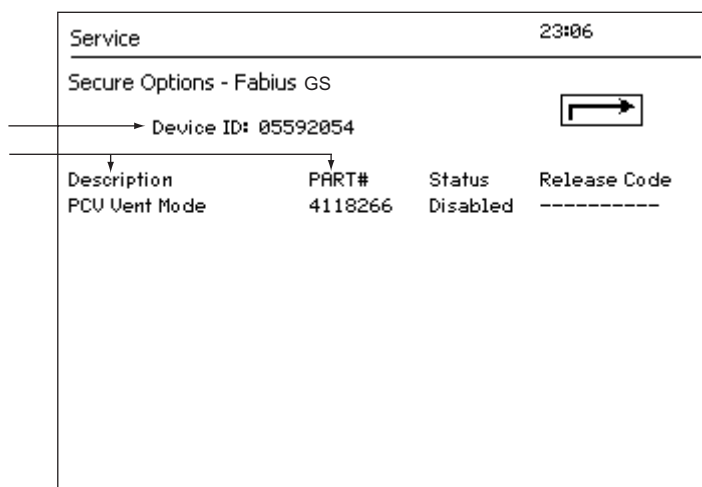

FIGURE 5. Secure Options Screen
- 5.1 Access the Secure Options screen located in the Main Service screen and obtain the Device ID, (Option) Description and Part Number. Refer to FIGURE 5. for locations of this information.